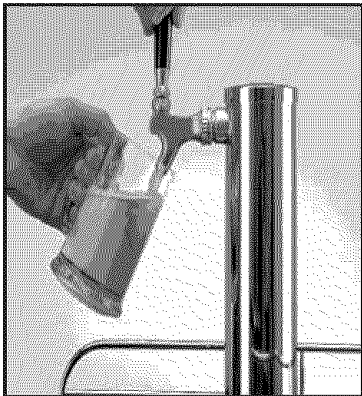

Fig. 13
2. Place glass beneath tap, and tilt at a 45° angle. (as shown in **Fig. 13**) Leaving approximately 1/4" between glass and faucet.